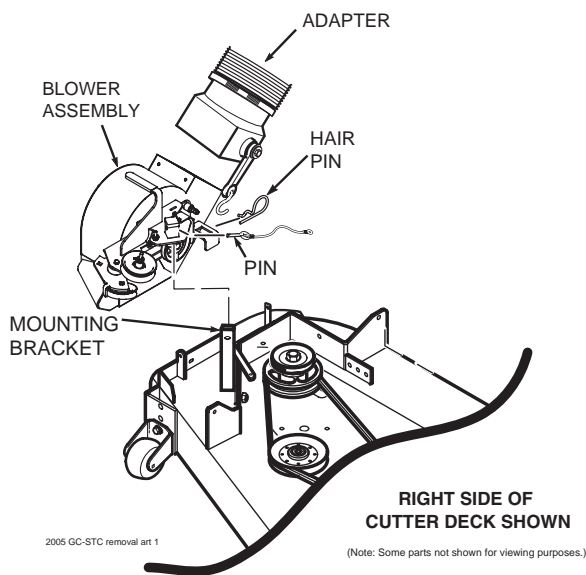

FIGURE 4-1
3. Remove the rubber strap holding the adapter to the blower assembly and the large hair pin securing the blower to the discharge mounting bracket. See Figure 4-1.
4. Remove the belt, pin and large hair pin securing the blower assembly to the cutter deck and remove the blower assembly. See Figure 4-1.